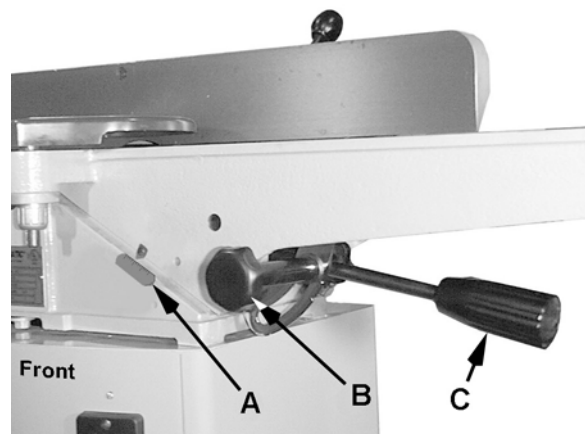
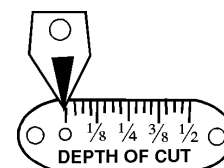

Figure 14
Figure 15
Refer to Figures 14 – 16.
1. Loosen the rear *thumb screw* (D) and the *lock knob* (B).
2. **Raise or lower** the *height adjustment handle* (C) until the *scale* (A, Fig. 14 and Figure 15) reads approximately the desired depth of cut.
3. Turn the locking handle (B) until it is snug.
4. **Rotate** the *height adjustment handle* (C) until the scale reads exact. Clockwise raises the table, counterclockwise lowers the table.
5. When set, retighten the *thumb screw* (D).
**Helpful Hint:** Occasionally you will find that you cannot set the coarse adjustment all the way up to 0" or all the way down to 1/2" on the *Depth of Cut* scale (Figure 15) when raising or lowering the handle (C, Fig. 14). When this happens:
With the *lock knob* (B, Fig. 14) unlocked, *rotate* the *height adjustment handle* (C, Fig. 14) a few times, then raise or lower it. Once you are able to reach the 0 or 1/2 setting (Figure 15), you will again be able to swing the handle (C) through the full range.